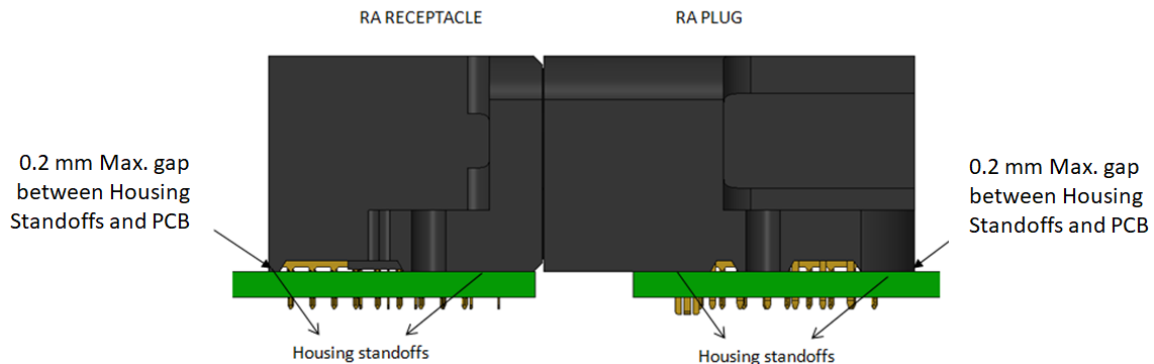

Figure 18
- Visually assure that the plastic standoffs on the bottom of the assembly are seated within 0.20 mm of flush to the PCB but not crushed (see Figure 18). A larger gap beneath the standoffs may indicate that the product is not seated parallel or perpendicular to the board. In the case of the plug, this can cause misalignment with adjacent components.